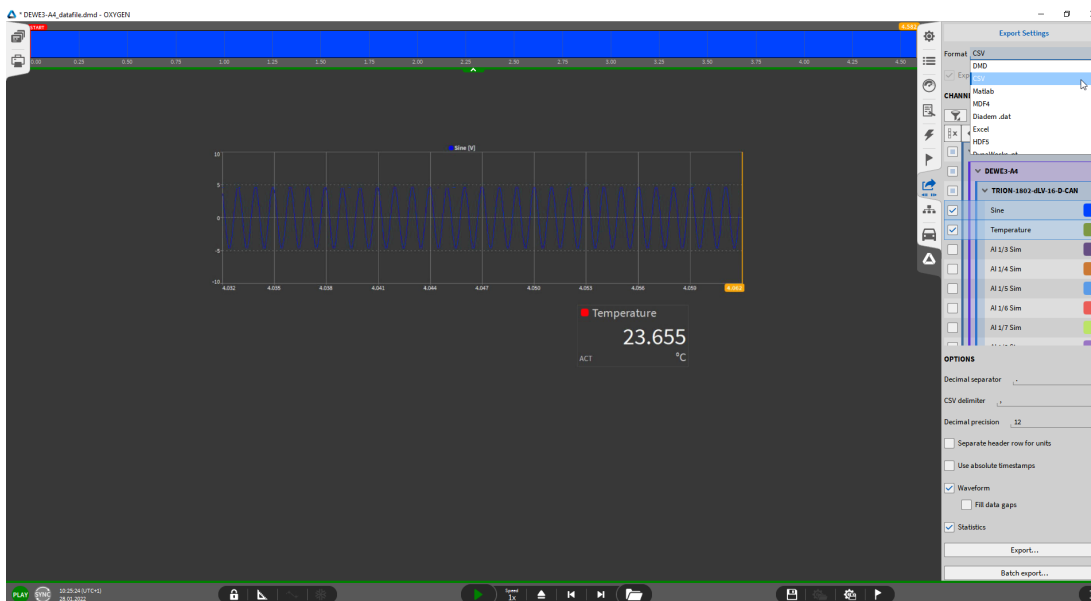

Fig. 27: Exporting data file for post-processing
The green border and PLAY indicator in the lower left corner indicate that a file is loaded for post-processing (see *Fig. 27*).
4. Click on the export button seen in *Fig. 27*.